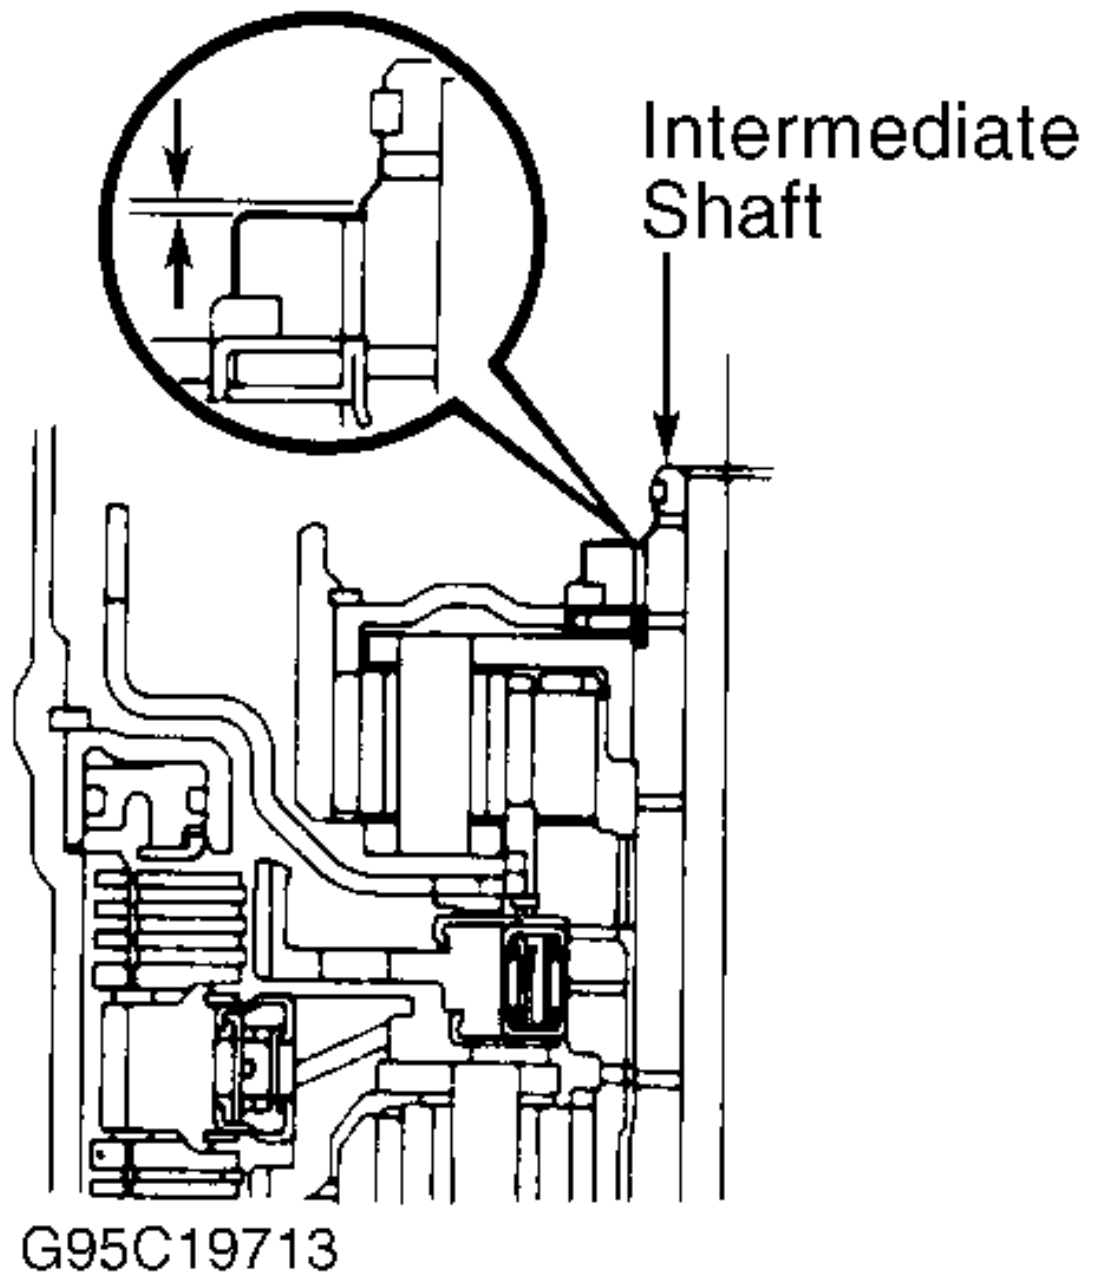

Fig. 84: Checking Front Planetary Ring Gear Installation
23. If components installed in transaxle case are correctly installed, end of ring gear flange bushing will be even or slightly lower than intermediate shaft shoulder. See Fig. 84 . Install thrust bearing and races "D" on tip of ring gear flange. Install 2nd coast brake band into transaxle case. Install pin through oil pump mounting bolt hole.